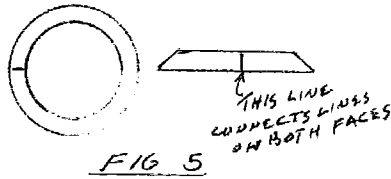

FIG 5
i) Now to complete the reference line. Earlier you drew a line on either side of the board from center to edge. Now you want to draw a line on the 45-degree cut line connecting those lines on what will be the outer side of the bowl. Do this on each of the rings you have cut. This will now allow you to perfectly line up the grain of the board...or not, if you choose. FIG 5
k) If necessary, re-turn the waste block to insure that it is the same diameter as the BOTTOM SIDE of the last ring (which will become the foot). Glue-up the waste block, center it on the foot and set it the entire assembly aside for about five (5) minutes. This will allow the glue a bit of time to assume some "tack". OR...TURN A TENON ON THE BASE RING THAT WILL FIT INTO YOUR CHUCK. A WIDTH OF ¼ OR 3/8 INCH IS ADEQUATE. MAKE SURE THAT THE REGISTER FLAT IS CLEAN.